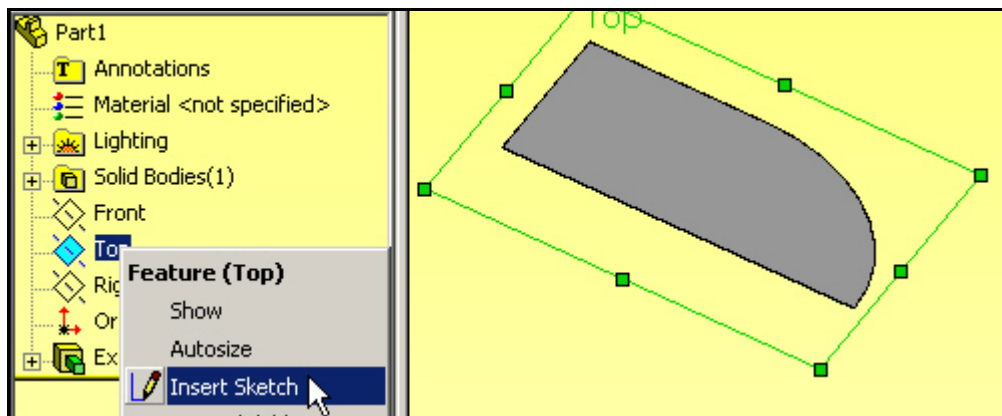

Figure 7 Preparing to sketch the thin wall region
6. Figure 7).
1. Right click **Top**→**Insert Sketch**, in Figure 7, to prepare to sketch a thin edge to extrude in both directions away from the base (for the wall and supporting lip).